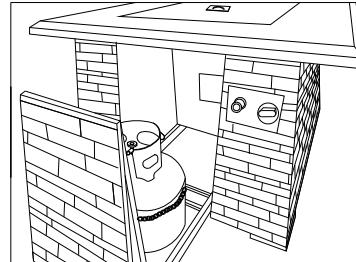

Fig 6
- 3- Fix the tank by the chain. See Fig 6.